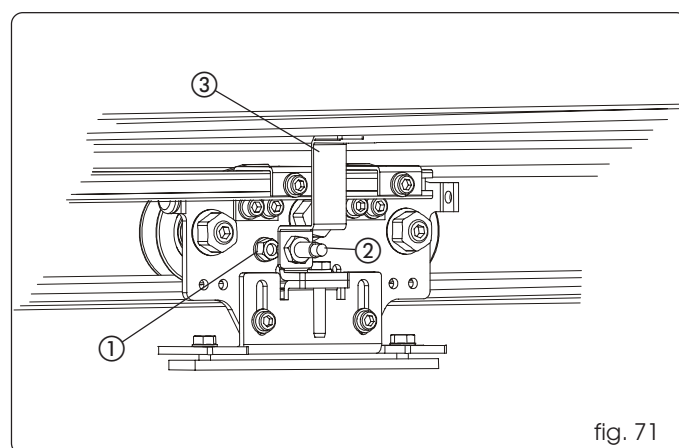

fig. 71
- Screw the magnet on the carriage nearest to the closing contact point, using the threaded hole on the carriage (fig.71 ref. ①).
- Assemble the sensor to the bracket (fig. 71 ref. ②), using the plastic nuts. Inset two threaded plates on the seats of the support profile, and install the bracket, using the screws (fig. 71 ref. ③). Make sure that the sensor is in line with the magnet when the leaf is closed.
- Screw the magnet on the innermost carriage of the right leaf, using the threaded hole on the carriage (fig.71 ref. ①).